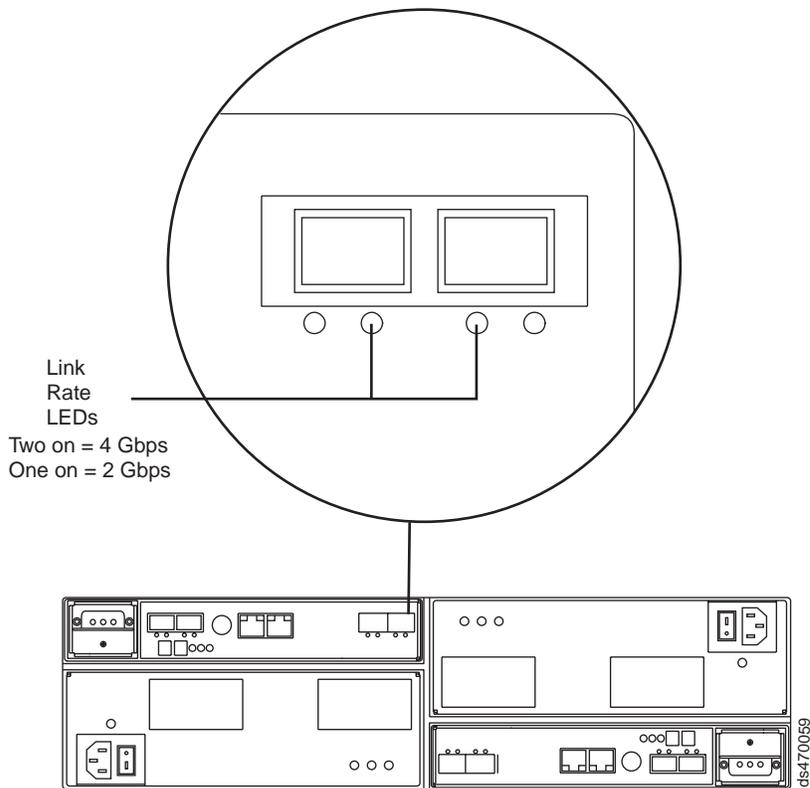

Figure 75. Link rate LEDs
2. Locate the Link Rate indicator LEDs. Figure 75 on page 122 shows the location of the Link Rate indicator lights on the back of the storage subsystem.